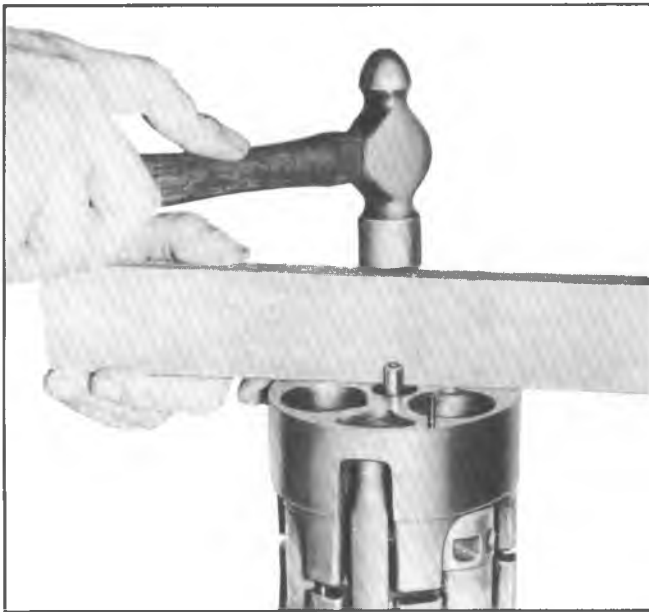

Fig. 39--Assembling Cylinder Halves
12. Install rear cylinder half on pistons, aligning cylinder with discharge cross-over tube hole in front cylinder. Tap into place using a plastic mallet or piece of clean wood and hammer (Fig. 39).